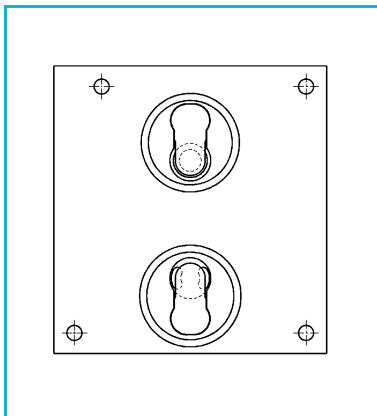

Fig. 11: Position of valve plates
4. Lay new valve plates (3) in the valve seats of the intermediate plate (6). See fig. 11 for position.
4. Lay new valve plates (**3**) in the valve seats of the intermediate plate (**5**). See fig. 11 for position.